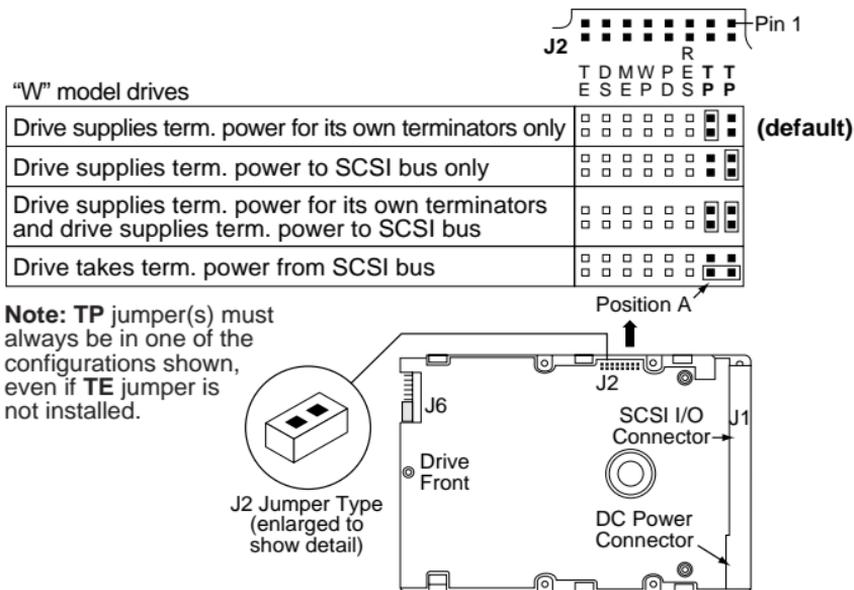

Figure 14. Setting terminator power jumpers
There are four possible terminator power (TP) configurations for "W" model drives (see Figure 14). You will not normally need to change this option and can leave the drive configured as it was shipped from the factory.